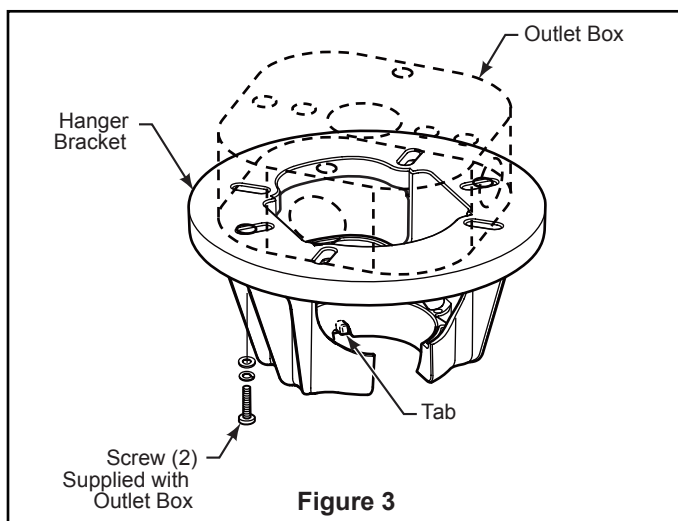

Figure 3
3. Carefully lift the fan and seat the downrod/hanger ball assembly on the hanger bracket that was just attached to the outlet box (Figure 4). Be sure the groove in the ball is lined up with tab on the hanger bracket (Figure 3).